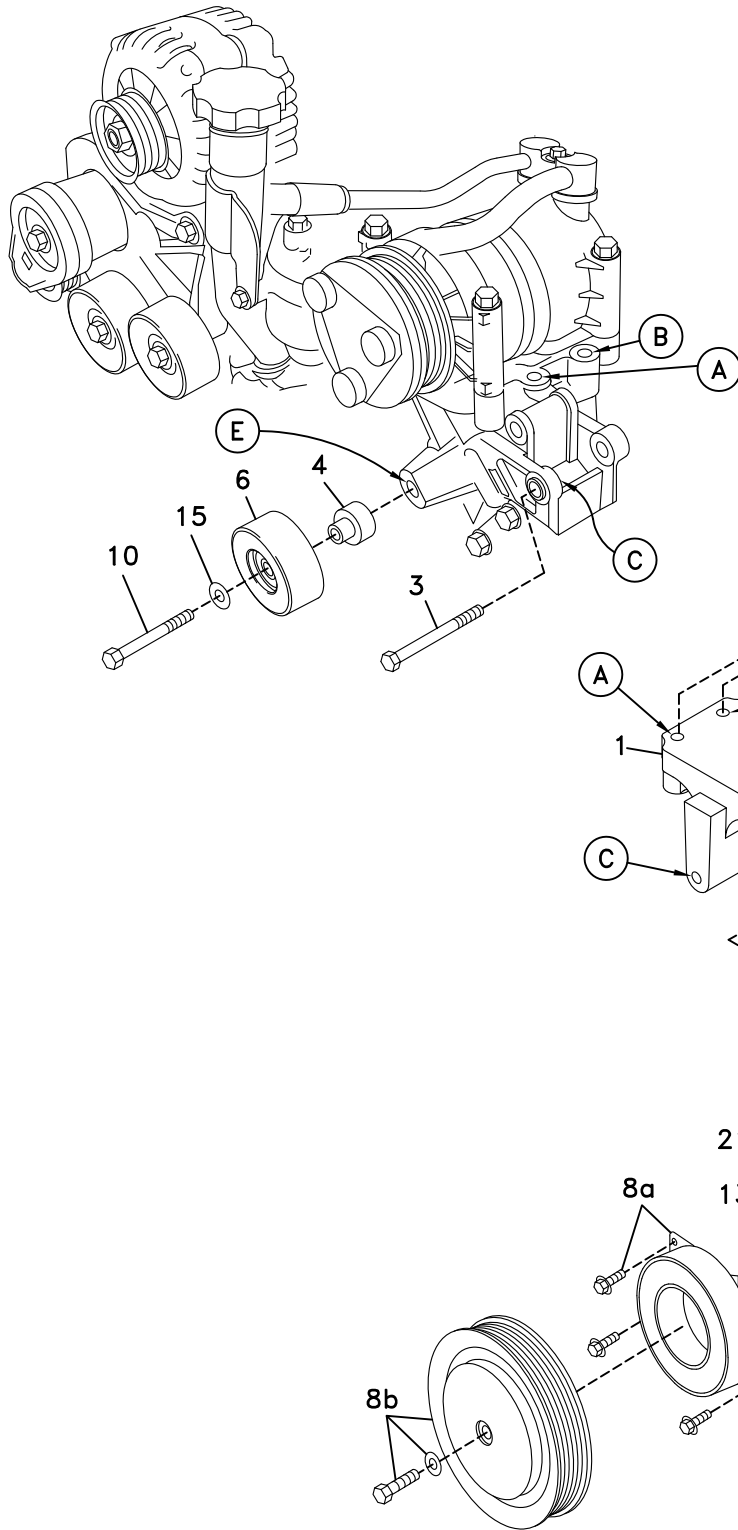

FIG. 5
4. Push the idler bushing (4) into the back of the idler pulley (6). Insert the M10 x 40 bolt (10) through a 3/8 flat washer (15), through the idler pulley and bushing and into the boss below the air conditioner at Location E.
5. Bolt the base plate (2) to the engine bracket (1) with three 3/8 x 1 socket head bolts (13). Bolt the pump plate (5) to the base plate (1) with one 3/8 x 3/4 socket head bolt (26) and two 3/8 x 1 socket head bolts (13). Torque to 20 ft-lb.
6. Bolt pump (7) onto pump plate (5) with two 3/8 x 1 1/4 bolts (14) and two 3/8 flat washers (15). Torque to 20 ft-lb. Attach coil (8a) with four 1/4 x 1/2 flange bolts supplied with clutch. Torque these to 6 ft-lb. Attach clutch pulley (8b) to pump shaft with 5/16NF x 1 1/4 bolt and heavy washer supplied with clutch. Torque to 14 ft-lb.
7. If the air conditioner bracket has a lug as in Fig. 5, it needs to be cut off for the engine bracket (1) to fit in place.
8. Insert the two M10 x 70 bolts (9) through the holes in the notched end of the engine bracket (1) and into the air conditioner mounting bracket at Locations A and B. Torque to 25 ft-lb. Thread the M10 x 80 socket head bolt (3) into the hole at Location C and through the bottom lug of the pump bracket. Torque to 25 ft-lb.